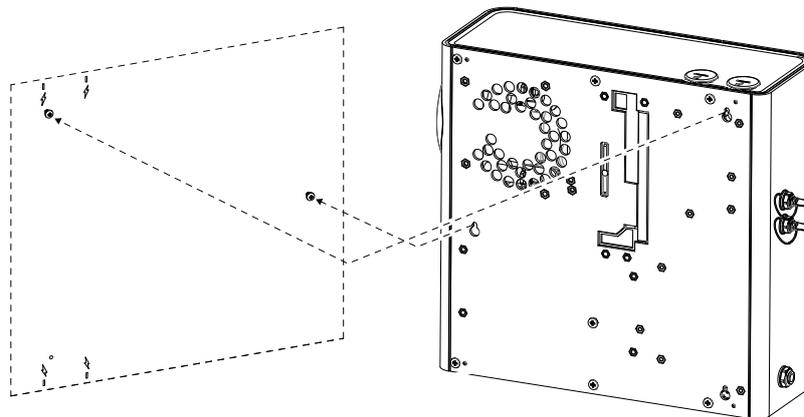

Figure 4-11: Mount the detector
8. Mount the detector onto the two screws (Figure 4-11).